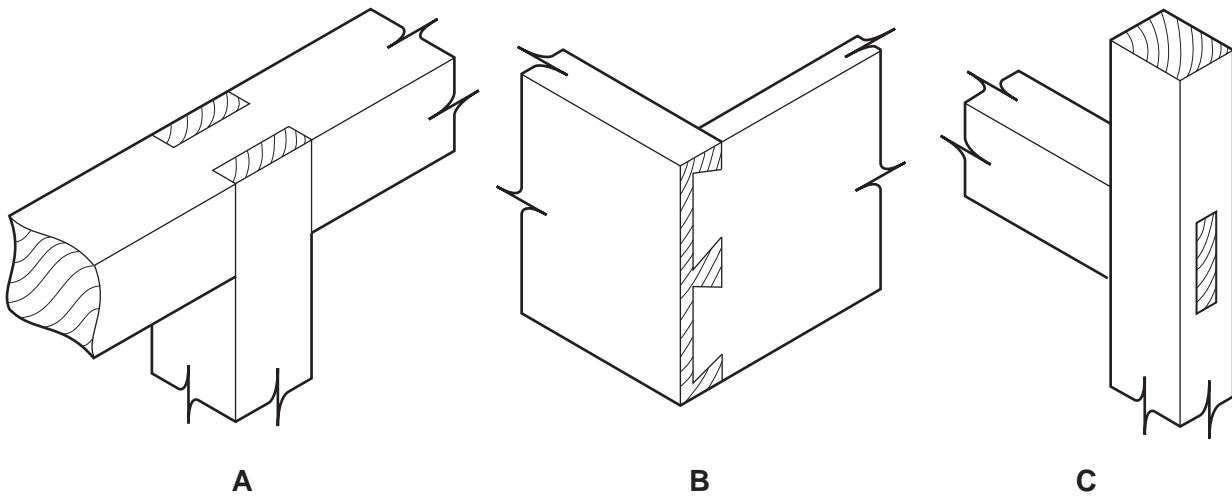

Fig. 3
- 4 Fig. 3 shows three joints used in construction.